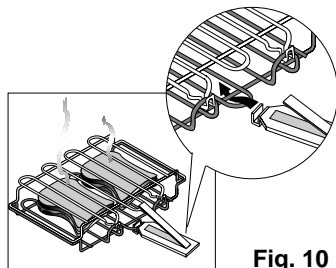

Fig. 10
2) Take hold of racks when handle is “open” as shown in fig. 10. At this point completely remove the racks from the oven by pulling outwards all the way.
3) Once racks have been removed, the top rack can be easily “opened” by pressing down on the top part of the handle, thus releasing the toast on to a plate, without getting burned (fig. 10).